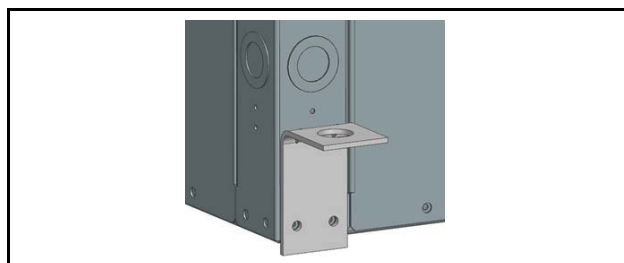

Fig. 9 Attaching Brackets
2. Mount the four brackets to unit's corner posts using the screws provided in the kit as shown in Fig. 9. The bracket tabs go into the slots on the base, and then the brackets are screwed down.